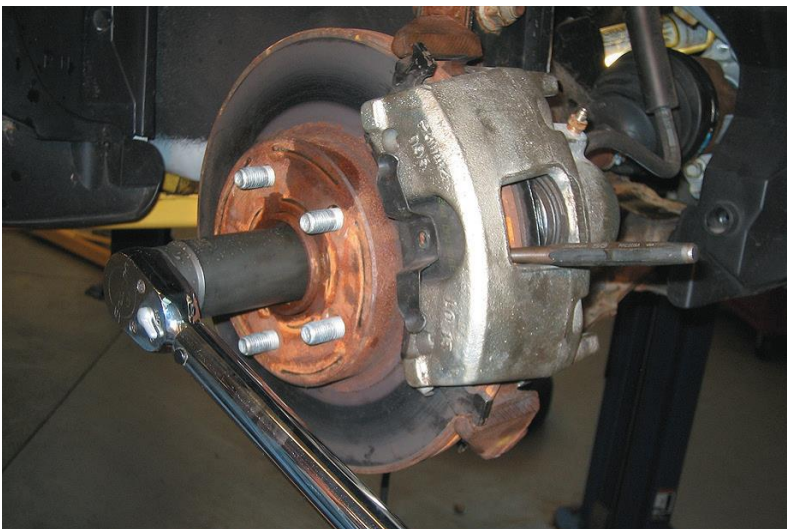

Figure 12. Tighten the drive axle nut with a torque wrench.
- Reinstall the drive axle shaft in the reverse order of removal and torque the drive axle nut to factory specifications. NOTE: Many drive axles are retained by prevailing torque nut that must not be reused. Figure 12.